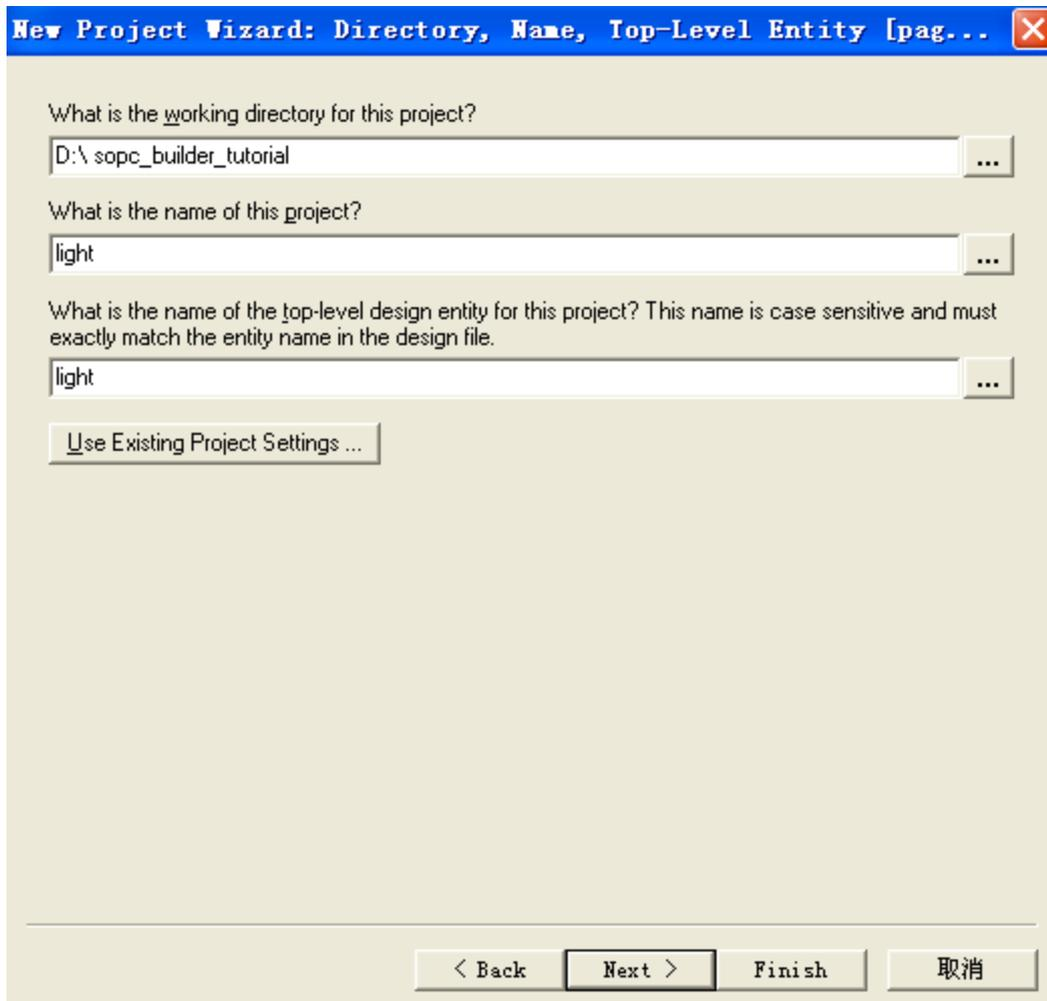

Figure 3. Create a new project.
1. Create a new Quartus II project for your system. As shown in Figure 3, we stored our project in a directory called `D:\sopc_builder_tutorial`, and we assigned the name `lights` to both the project and its top-level design entity. You can choose a different directory or project name, but be aware that the SOPC Builder software does not permit the use of spaces in file names. For example, an attempt to use a directory name `sopc builder tutorial` would lead to an error. In your project, choose the EP4CE115F29C7 chip as the target device, because this is the FPGA on the DE2-115 board.
This entity is named `lights`, because this is the name we specified in Figure 3 for the top-level design entity in our Quartus II project. Note that the input and output ports of the entity use the pin names for the 50-MHz clock, `OSC_50`, pushbutton switches, `KEY`, toggle switches, `SW`, and green LEDs, `LEDG`, that are specified in the DE2-115 User Manual. Type this code into a file called `lights.vhd`. Add this file and all the `*.vhd` files produced by the SOPC Builder to your Quartus II project. Also, add the necessary pin assignments on the DE2-115 board to your project.